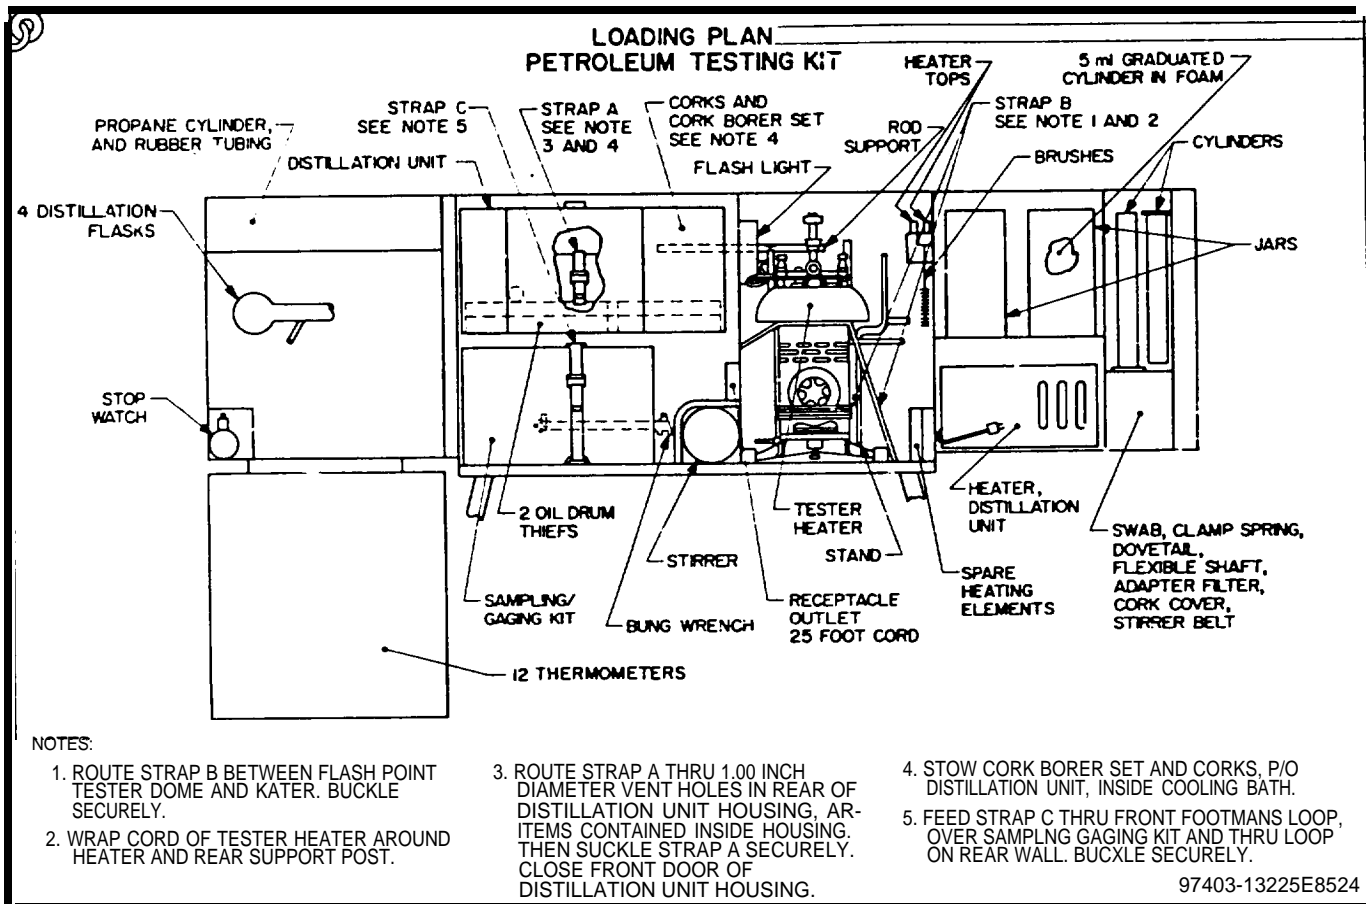

Figure 2-6. Loading Plan.
- c. Loading Plan. Refer to figure 2-6. The loading plan supplied with the Test Kit indicates the location of all stowed components in the cabinet. Refer to the loading plan to find the components needed to setup and assemble the equipment.
- (1) Refer to loading plan (figure 2-6) and remove flash point tester components from cabinet (1).
- (2) Close gas line needle valve (2).
- (3) Unfasten latch (3) and lower access panel (4).
- (4) If removed, close valve (5) by turning knob fully clockwise (to the right).
- (5) If removed, install valve (5) on propane cylinder (6).
- (6) Push one end of rubber tubing (7) onto cylinder valve (5). Push other end of tubing onto gas line fitting (8) on flash point tester (9).
- (7) Loosen screw (10) and reposition cup holder (11) out away from dome (12). Retighten screw.
- (8) Connect electrical cable (13) to power source.
- (9) Connect electrical cord (14) to electrical cable (13).
- (1) Refer to loading plan (figure 2-6) and remove distillation unit components from cabinet.
- (2) Separate all components to aid assembly.
- (3) Install two dovetail clamps (1 and 2) on back of heater (3).
- (4) Screw rod (4) into stand (5).
- (5) Position heater (3) on rod (4). Tighten upper dovetail clamp (1), then lower dovetail clamp (2) to secure heater on rod.
- (6) Place clay refractor (6) on top of heater (3) with concave surface facing up.
- (7) Install flask clamp (7) on rod (4).
- (8) Install flask holder (8) on flask clamp (7).